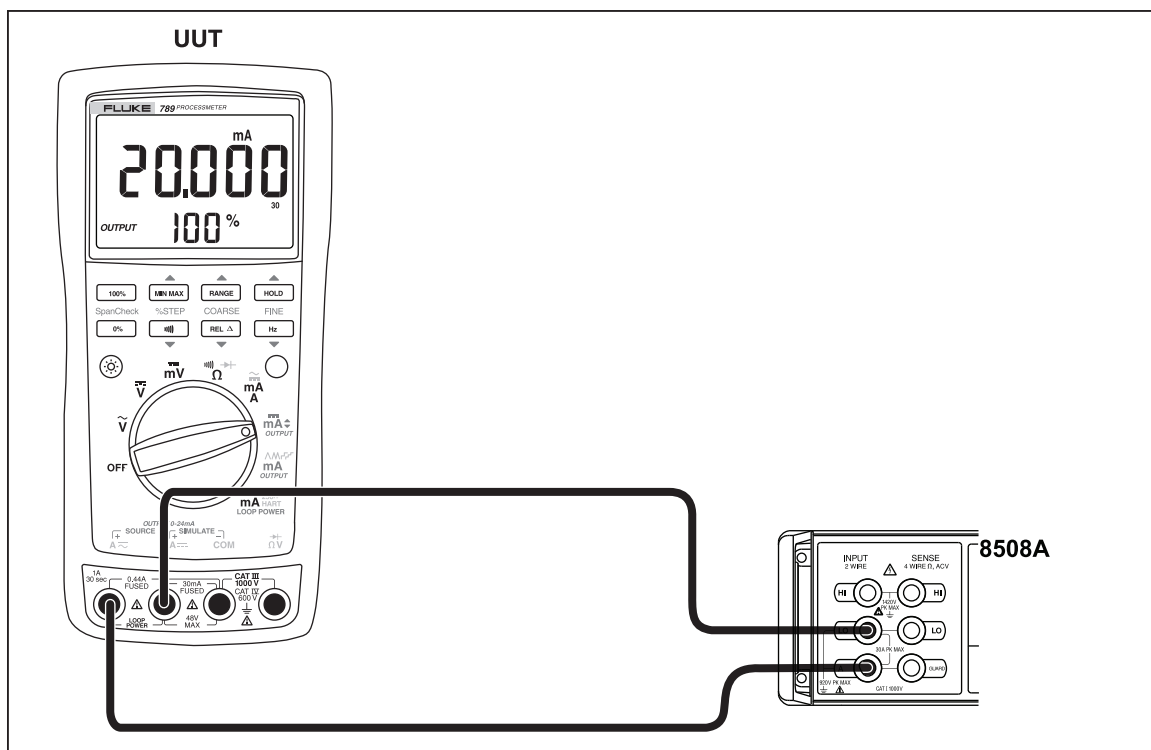

Figure 3. Current Sourcing Connections Using the HP 3458A
2. Connect the **SOURCE + (A $\overline{\sim}$ )** and **– (mA $\overline{\sim}$ )** terminals on the UUT to the current terminals on the multimeter as shown in Figure 3.